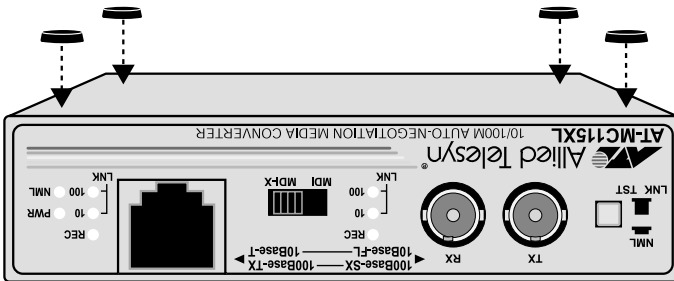

Figure 6 Attaching the Protective Feet
2. If you are installing the media converter on a desktop, attach the four rubber feet to the bottom of the unit. Refer to Figure 6. **Do not attach the rubber feet if you are installing the unit in an AT-MCR12 chassis.**